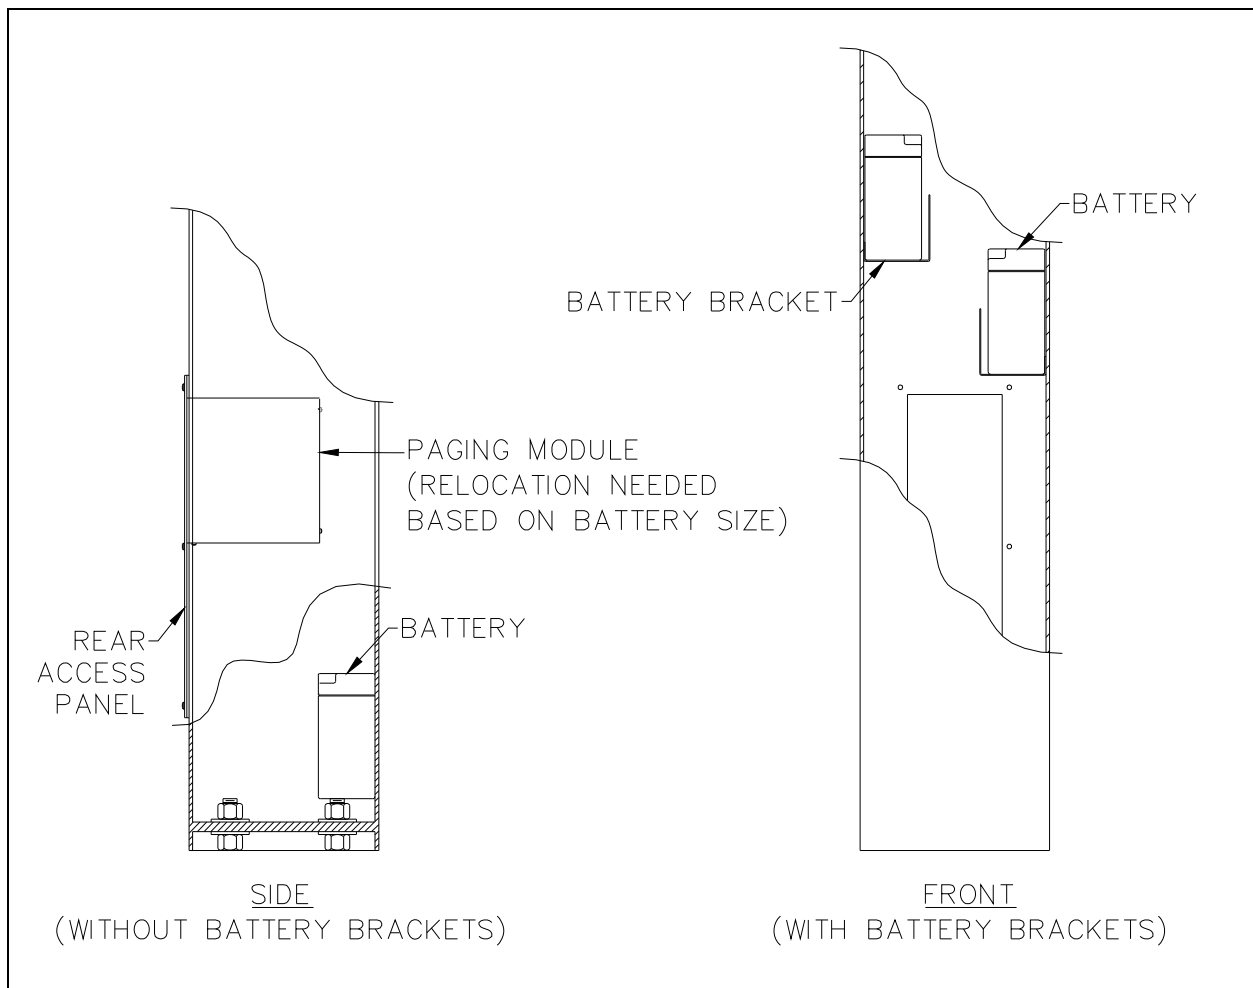

Figure 10. Battery Installation Locations
2. Secure the batteries into the L-brackets inside tower under the telephone opening or at the base of the tower (see Figure 10).